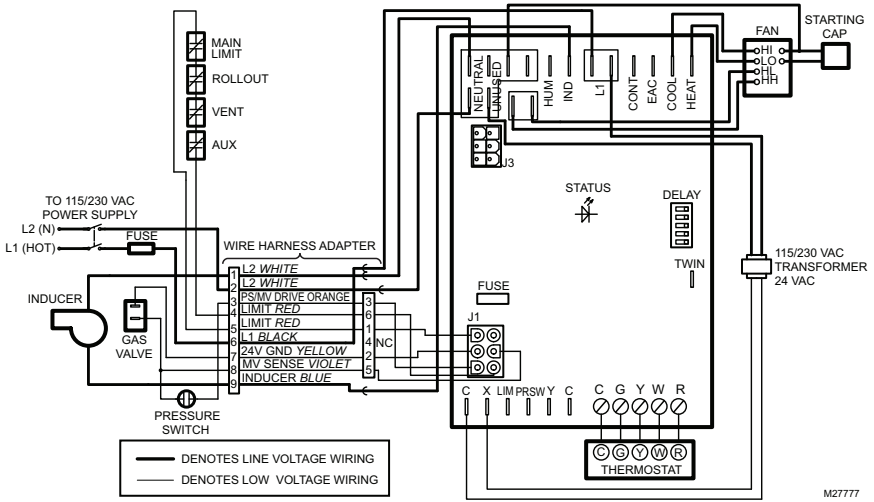

Fig. 3. Typical ST9120U wiring connections in ST9101 system.
8. Check proper connection using Fig. 3.